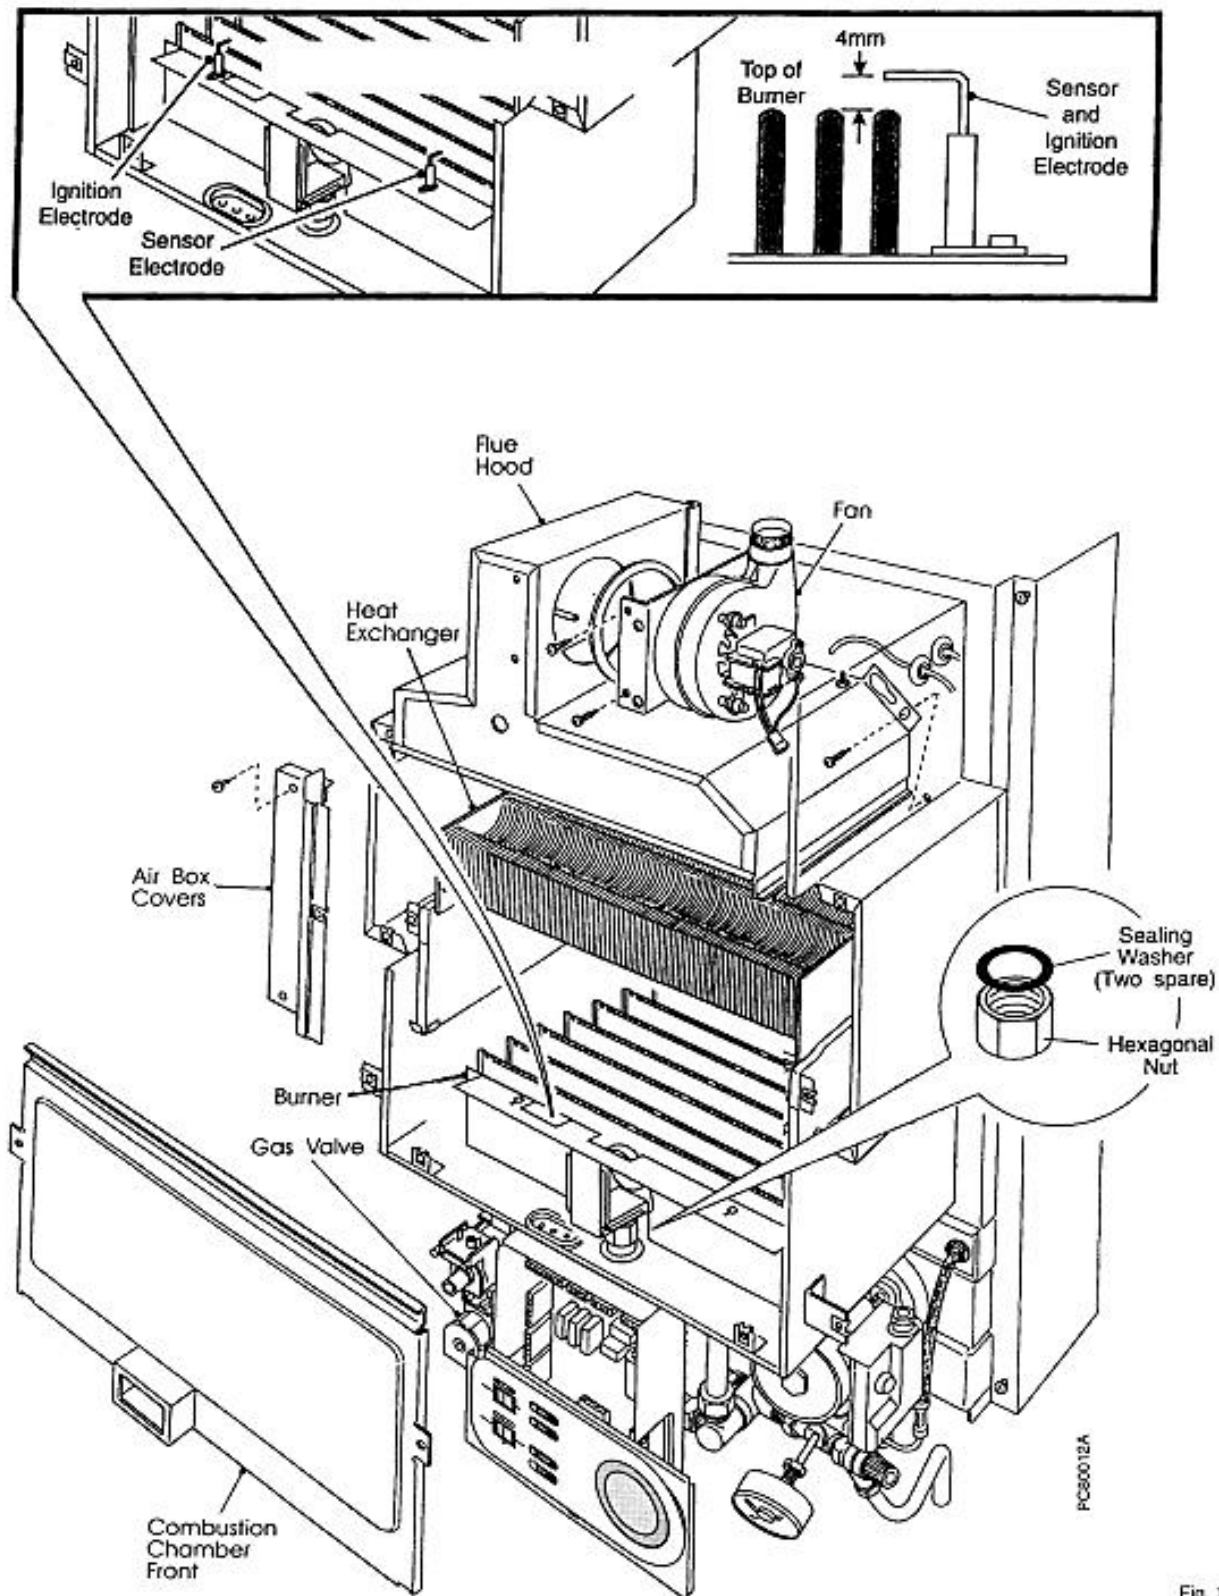

Fig. 14
#### 4.7 To Inspect and Clean the Boiler - Fig. 14
Check the electrodes for damage or deterioration. Ensure that the spark gaps are correct to dimensions specified in Fig. 14. Clean or renew as necessary. Do not bend the electrodes as the insulating material may crack.
3. Fit new electrode and re-assemble in reverse order, checking the gap measures  $4\text{mm} \pm 0.5\text{mm}$  (Fig. 14).
2. Remove the electrodes from the main burner and re-assemble onto the new main burner, check electrode gap is  $4\text{mm} \pm 0.5$  Fig. 14).